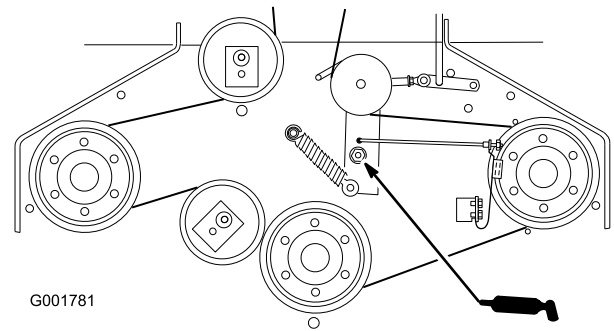

Figure 4
- Check the mower belt idler arm for grease (Figure 4).